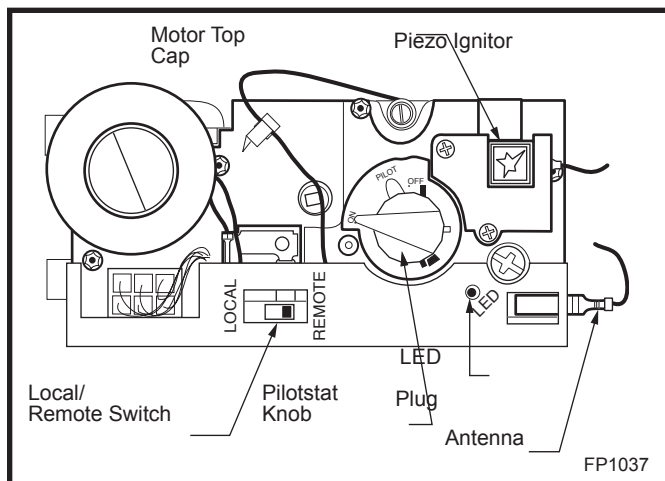

Fig. 32 Comfort control valve.
1. If the manual switch is in remote position, switch it to LOCAL. (Fig. 32)